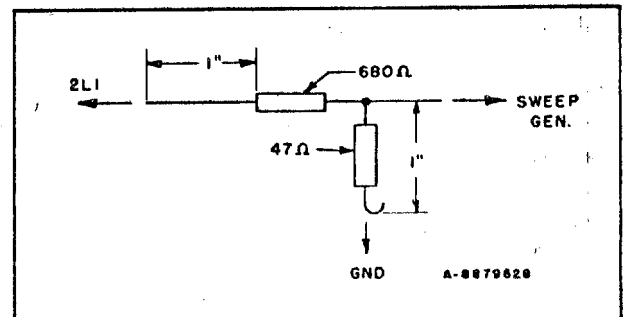

Figure RM-5—30 mc Alignment Resistor Network
d. Apply the sweep generator to 2L12, ground 2V2-1, attach the alignment jig to the bottom of 2C21, and apply capacitor test equipment item 27(e), to 2V5-5 so as to ground this point to r-f only. Align 2L15, 16 and 17 as in (c).
f. Attach the 680-ohm - 47 ohm resistor combination, test equipment item 27 (b) (see Figure RM-5), between the screw directly above 2L3 and the standoff insulator connection to 2L1.